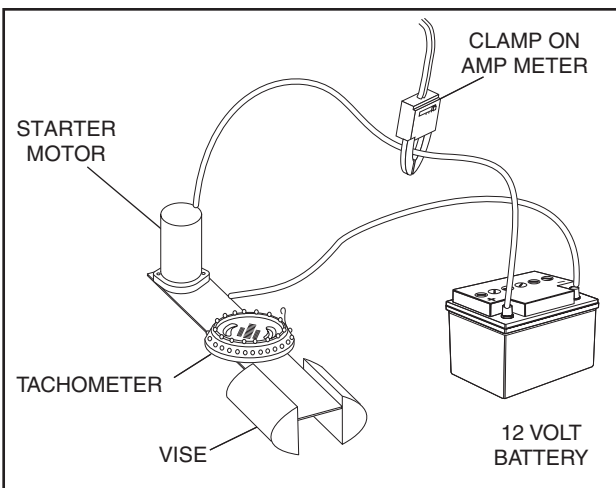

Figure 5. Starter Motor Performance Test
- b. See Figure 5. Connect the starter motor, a fully charged 12 volts battery, a tachometer and an ampmeter as shown.